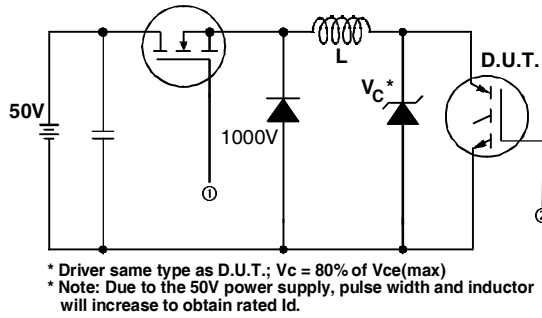

Fig. 13a - Clamped Inductive Load Test Circuit
- ② $V_{CC} = 80\%(V_{CES})$, $V_{GE} = 20V$, $L = 10\mu H$, $R_G = 23\Omega$, (See Fig. 13a)
- ③ Repetitive rating; pulse width limited by maximum junction temperature.
- ④ Pulse width $\leq 80\mu s$; duty factor $\leq 0.1\%$.
- ⑤ Pulse width $5.0\mu s$, single shot.